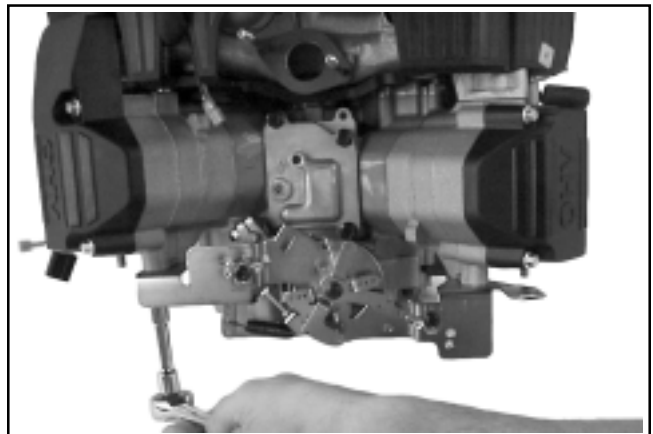

Figure 9-18. Removing the Four Screws from Main Throttle Bracket.
3. Remove the four hex. flange screws securing the throttle control bracket to the cylinder heads. See Figure 9-18.